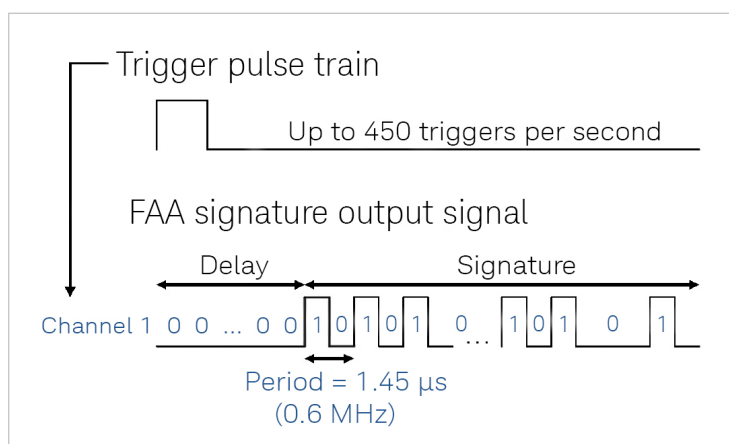

Figure 4
- And highest possible frequency accuracy (Figure 4)